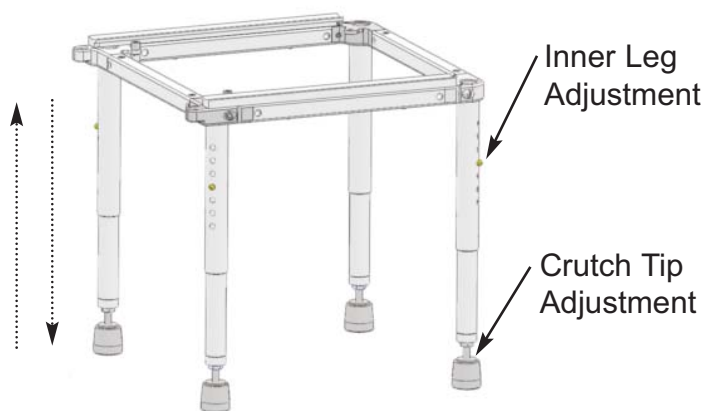

Figure 15
**D** Adjust the height of the tub section to match the height of the roll-in section by either adjusting the four inner legs (tub section) and/or the adjustable crutch tips (tub section) - Refer to Figure 15.